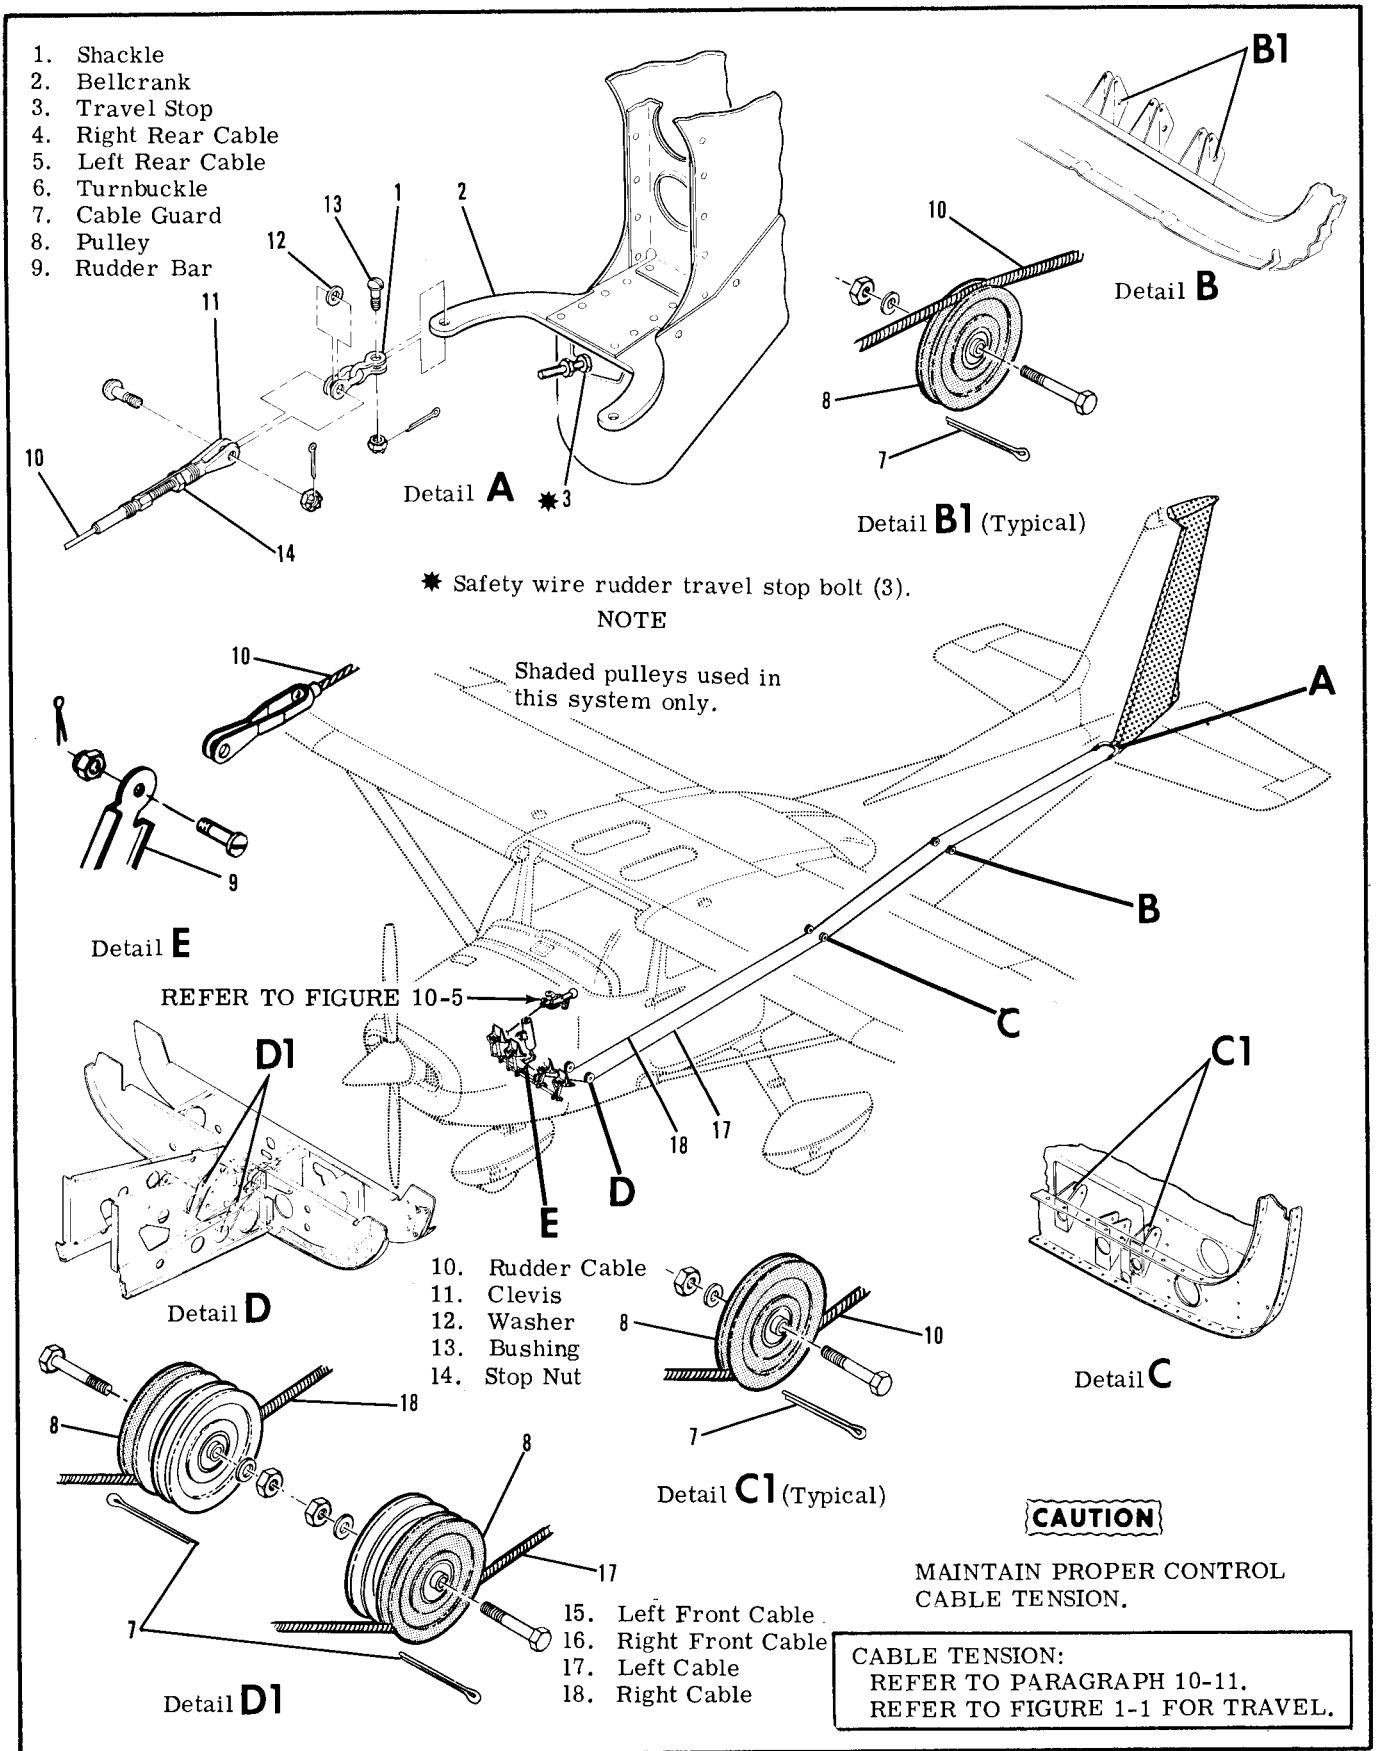

Figure 10-1. Rudder Control System
10-1. RUDDER CONTROL SYSTEM. (Refer to figure 10-1.)
- b. Disconnect master cylinders (12) at pilot rudder pedals.
- d. Remove rudder pedals (2) and brake links (5).
- e. Relieve cable tension at clevises (index 11, figure 10-1).
- a. Disconnect tail navigation light quick-disconnect (13).
- b. Relieve cable tension at clevises (index 11, figure 10-1) and disconnect clevises from rudder bellcrank (12).
- c. With rudder supported, remove hinge bolts (1) and lift rudder free of vertical fin.
10-9. CABLES AND PULLEYS. (Refer to figure 10-1.)
10-11. RIGGING. (Refer to figure 10-1.)